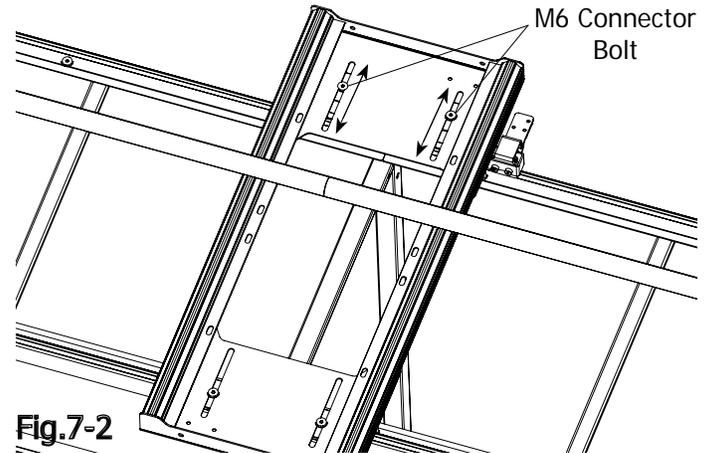

Fig.7-2
Note: It may be necessary to adjust the rear Carriage wheels. Loosen the (2) M6 Connector Bolts and adjust the Carriage to fit to the track, see Fig7-2.